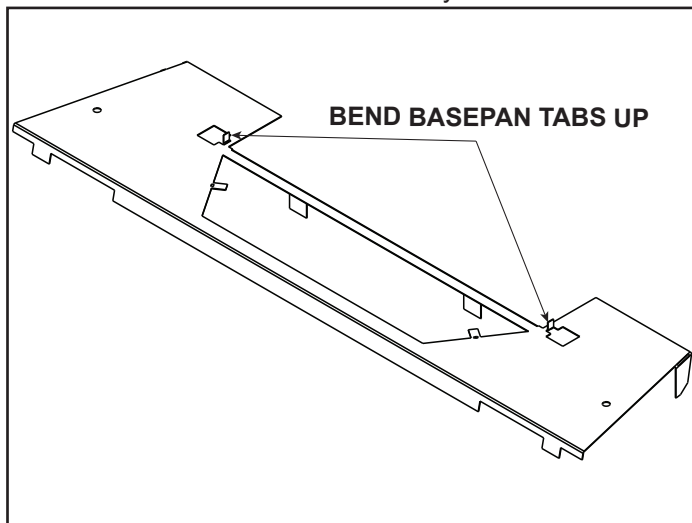
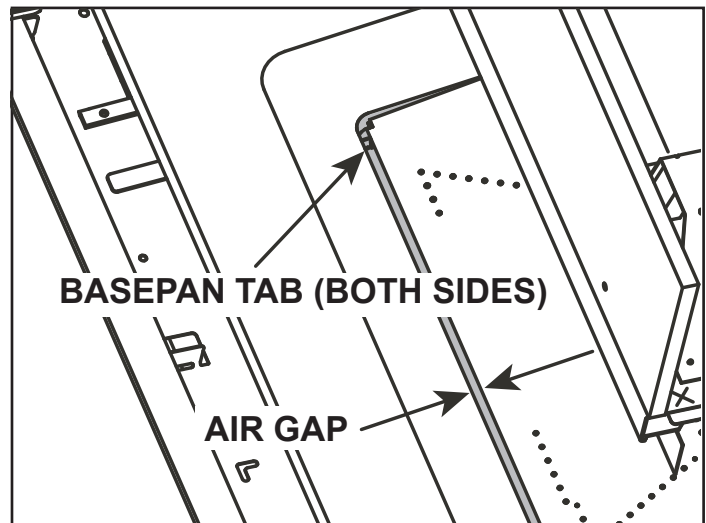

Figure 2 Bend Basepan Tab - CAL42X-SG/WB Only
Figure 3 Basepan Installed - CAL42X-SG/WB Only
**CAL42X-SG, CAL42X-WB MODELS:** Bend the left and right basepan tabs up to 90 degrees as shown in Figure 2. Bending the basepan tabs up creates a necessary air gap between the burner and the base refractory shown in Figure 3.